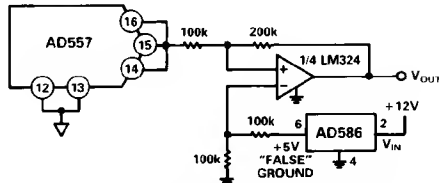
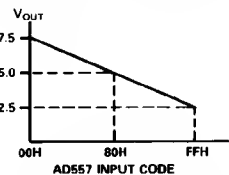

Figure 5. Level Shifting the AD557 Output Around a “False” Ground
Figure 6. AD557 Input Code vs. Level Shifted Output in a “False” Ground Configuration
Figure 5 shows an easy and inexpensive way to implement this. The AD586 is used to provide a stable 5 V reference from the system’s +12 V supply. The op amp shown likewise operates from a single (+12 V) supply available in the system. The resulting output at the VOUT node is ±2.5 V around the “false” ground point of 5 V. AD557 input code vs. VOUT is shown in Figure 6.
The AD557 has data input latches that simplify interface to 8- and 16-bit data buses. These latches are controlled by Chip Enable (CE) and Chip Select (CS) inputs. CE and CS are internally “NORed” so that the latches transmit input data to the DAC section when both CE and CS are at Logic “0”. If the application does not involve a data bus, a “00” condition allows for direct operation of the DAC. When either CE or CS go to Logic “1,” the input data is latched into the registers and held until both CE and CS return to “0.” (Unused CE or CS inputs should be tied to ground.) The truth table is given in Table I. The logic function is also shown in Figure 6.